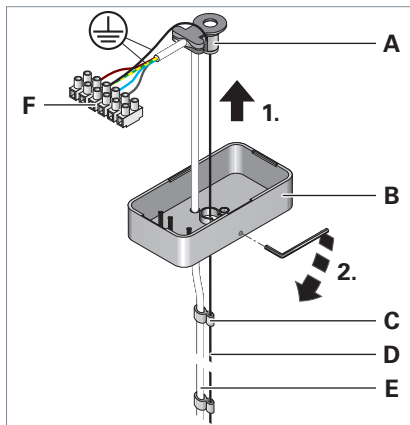

Fig. 8: Mounting the ceiling rose.
- ▶ Slide the ceiling rose **B** upward at the wire rope **D** and at the connecting cable **E**, see Fig. 8.